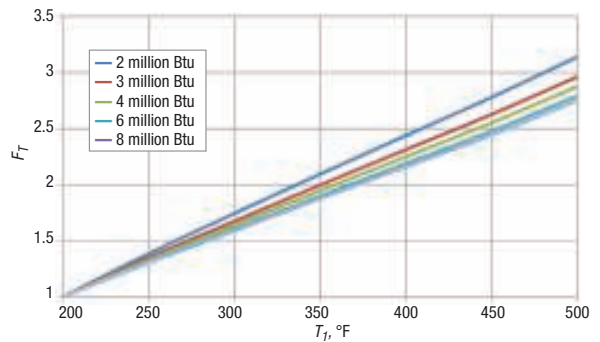

FIGURE 4. The adjustment factor for mineral wool, F_T , for temperatures other than the base case (200°F)
A plot of F_T versus T_1 is shown in Figure 4 for different energy costs (mineral wool is the reference case here).
Step 2. From Figure 4, determine the value of F_T to correct the pipe temperature (T_1) from the base temperature of 200°F. For $x = 350$ °F, the intersection of the line that corresponds to the given cost of energy (\$2/million Btu) is at $F_T = 1.75$.
FIGURE 4. Particle-size distribution data for FCC catalyst C measured using dry dispersion laser diffraction at a variety of pressures show that at 1 bar pressure, the particle size corroborates with data derived from wet dispersion for the same powder, indicating complete dispersion
Figure 4 shows the results of a pressure titration for FCC catalyst C. At low pressure, the results show large agglomerates, meaning full dispersion has not been achieved. As the pressure is increased, there is a clear decrease in particle size. At 1 bar pressure, the results show excellent corroboration with the wet dispersion data, indicating complete dispersion has been achieved. Above this pressure, any decrease in particle size can therefore be attributed to particle attrition.